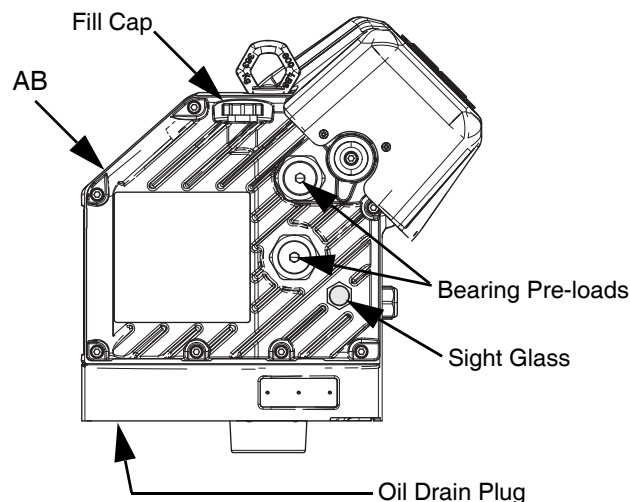

FIG. 37: Sight Glass and Oil Fill Cap
3. Remove the oil drain plug. See FIG. 37 for the location of the drain plug. Allow all oil to drain from the Driver (AB).
See FIG. 37 below. Check the oil level in the sight glass on a regular basis. The oil level should be near the half-way point of the sight glass when the Driver (AB) is not running. If the oil is low, open the fill cap and add Graco Part No. 16W645 ISO 220 silicone-free synthetic EP gear oil.